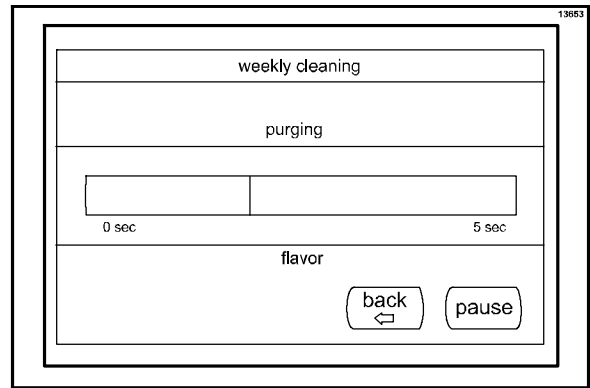

Figure 99
48. Press the NEXT key to start the purge cycle. (See Figure 99.)